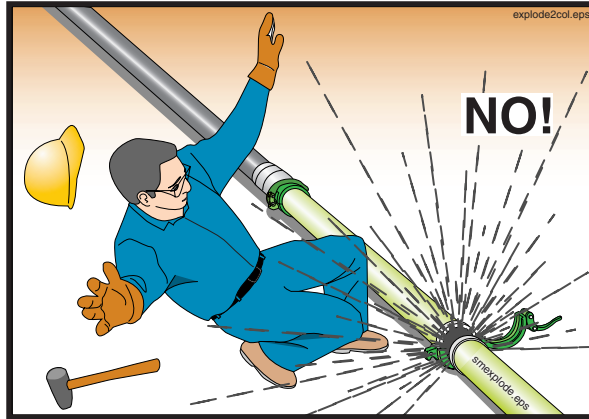

Figure 59
- The pipeline must not be disassembled until it has been completely relieved of air. Be sure of this! (See Figure 59.)